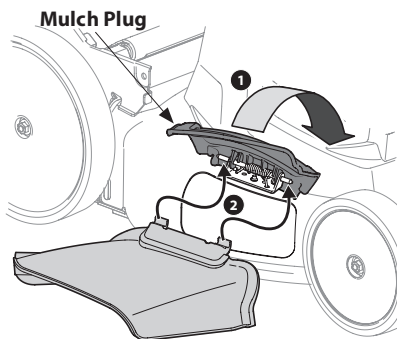

Figure 2-11
1. On the right side of the mower, lift the mulch plug. See Figure 2-11.